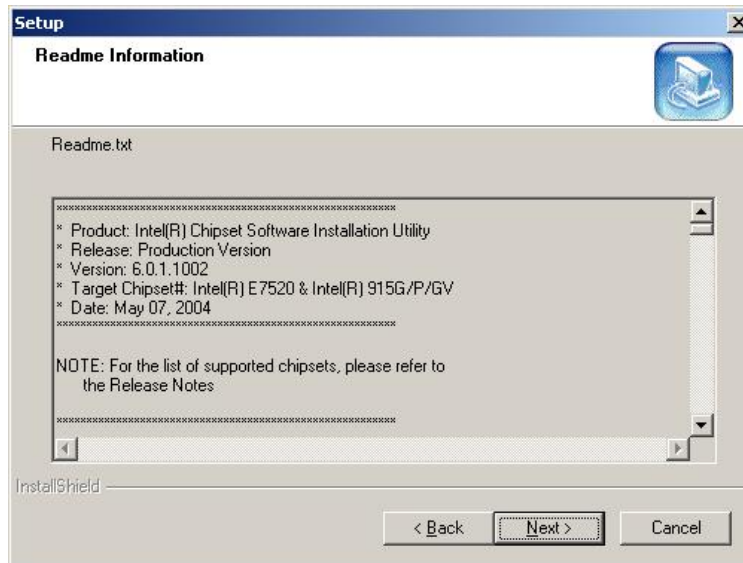

Figure 7-4: Readme Information
Step 5: Agree to the license terms by clicking “YES”. The “Readme” in **Figure 7-4** appears.